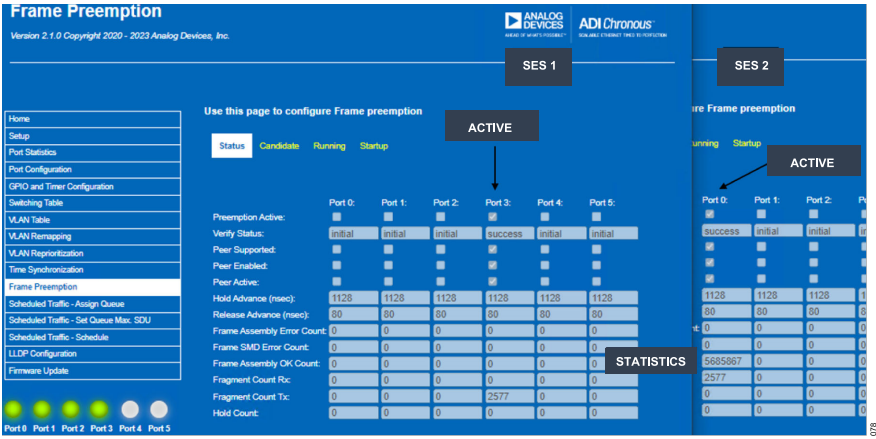

Figure 78. Status View with Preemption Enabled and visibility into Statistics
- ▶ Enabling Preemption in Switch 2 allows preemption to become active as shown in Figure 78.